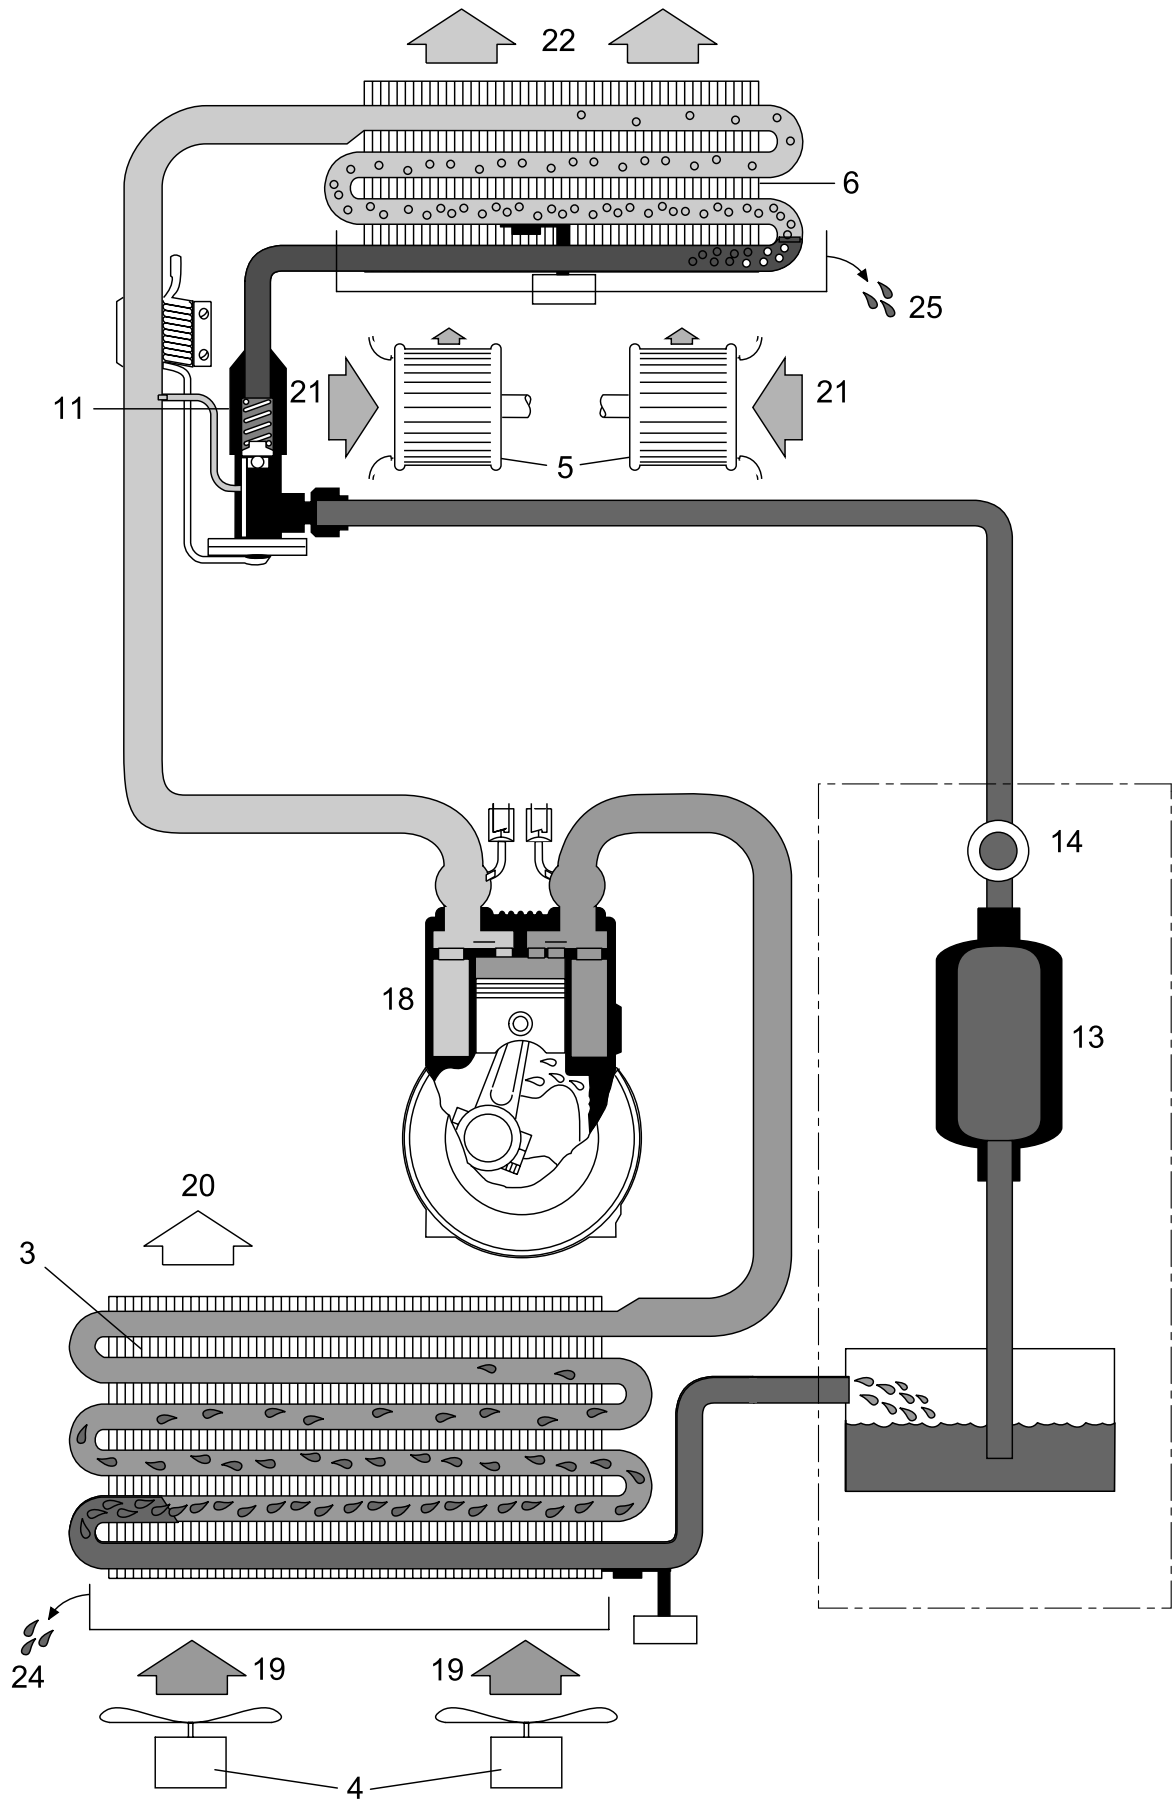

Fig. 2.4
The resultant condensation heat is transferred to the outside air flowing through the condenser (19 and 20, Figs. 2.4 and 2.5). Two axial fans (4) maintain a sufficient air flow even when the vehicle is stationary.